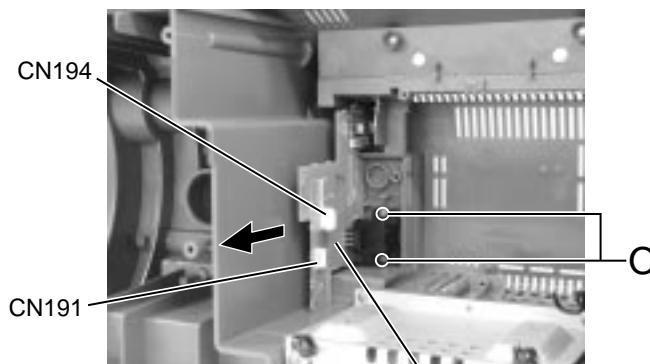

Fig.20 AC input board
**■ Removing the AC input board (See Fig.20)**